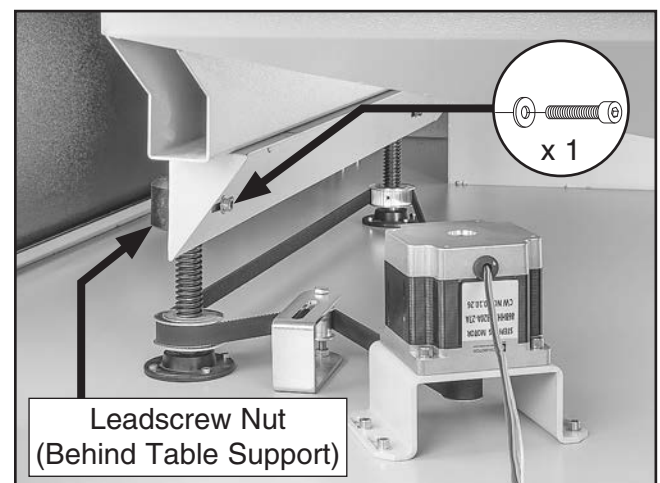

Figure 90. Leadscrew nut cap screw location.
9. Remove (1) cap screw and flat washer from front leadscrew nut (see **Figure 90**).